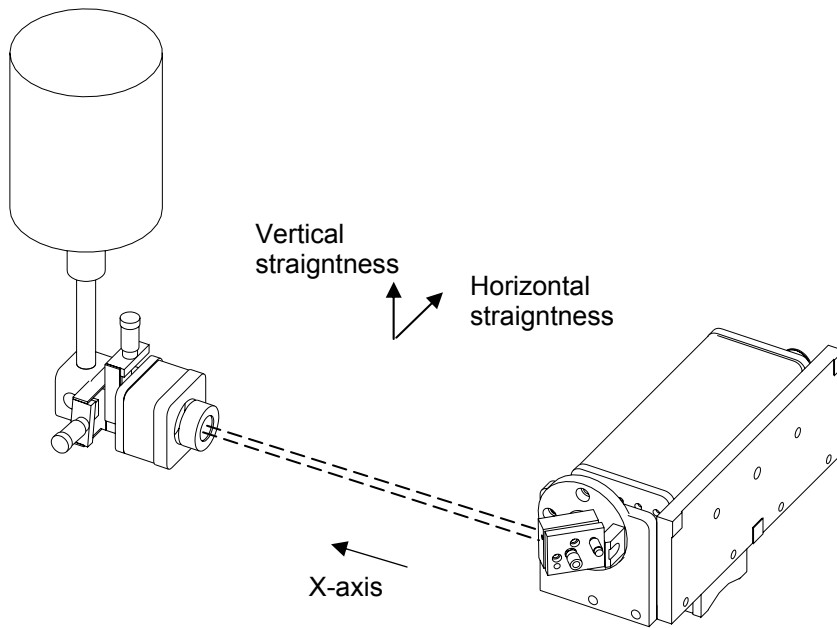
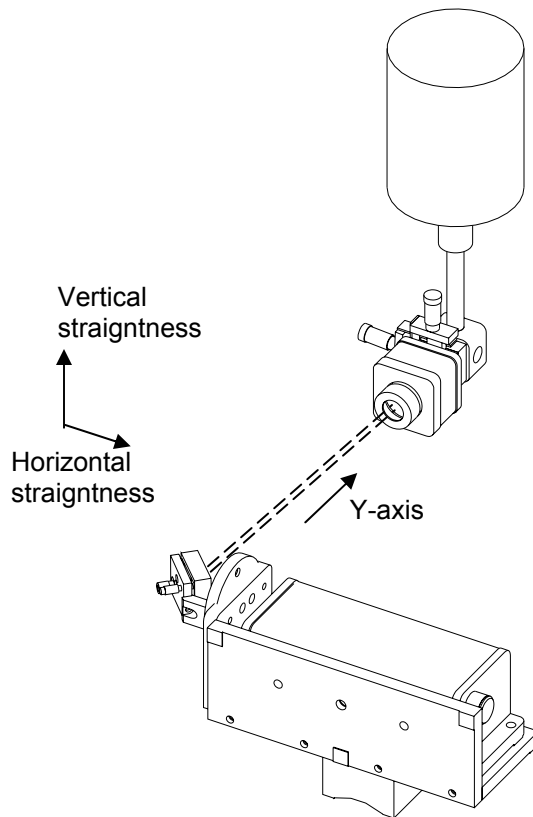

FIG. 10-7 HORIZONTAL AND VERTICAL STRAIGHTNESS OF X-AXIS
FIG. 10-8 HORIZONTAL AND VERTICAL STRAIGHTNESS OF Y-AXIS
2. A typical set up to measure the horizontal and vertical straightness of X-axis and a vertical machine center is shown in Fig. 10-7. Similar measurements for Y-axis and Z-axis are shown in Fig. 10-8 and 10-9. Make sure all cables are firmly attached to the bed so that the movement of the bed will not disturb the laser head or the quad-detector. The above setup is preferred when both straightness and squareness need to be measured.